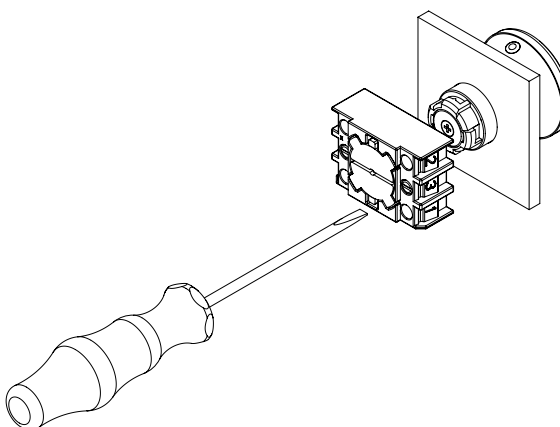

Fig. 1
1. Mount control elements and mounting flange by tightening both screws of mounting flange using size 2 slotted screwdriver (see fig. 1)
1. Mount control elements and mounting flange by tightening both screws of mounting flange using size 2 slotted screwdriver (see section 3.1, Fig. 1)